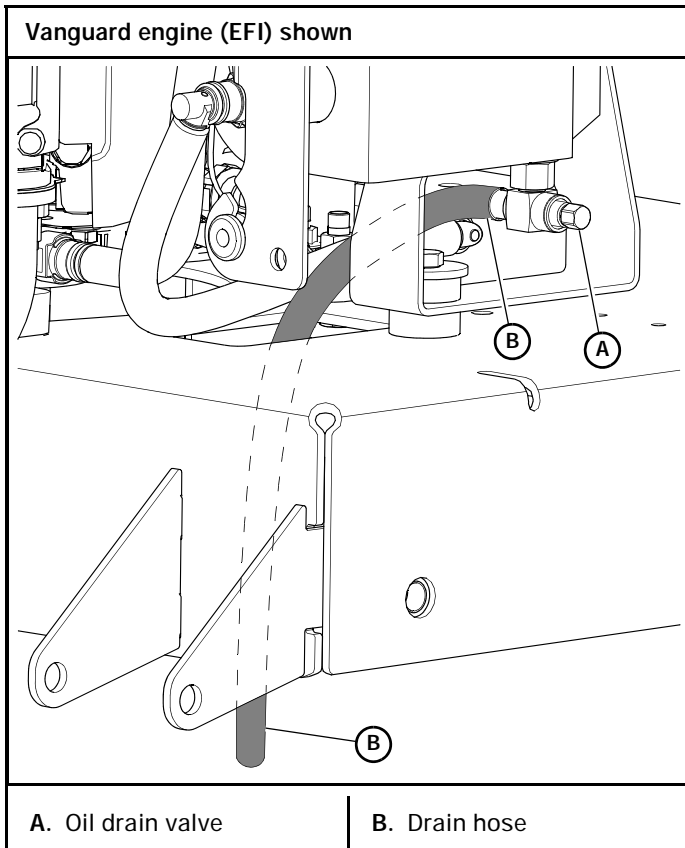

Figure 5-3
1. Locate the oil drain valve on the bottom of the oil tank. Figure 5-3
3. Attach one end of the hose onto the oil drain valve nipple. Make sure the hose is pushed all the way onto the valve. Figure 5-3